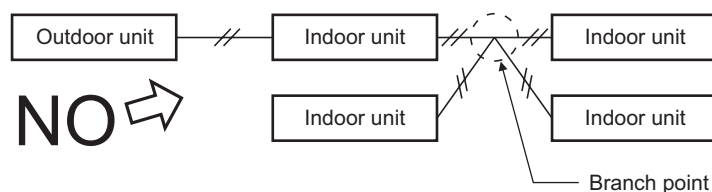

Fig. 1-2
- (3) Do not install inter-unit control wiring such as star branch wiring. Star branch wiring causes mis-address setting. (Fig. 1-2)